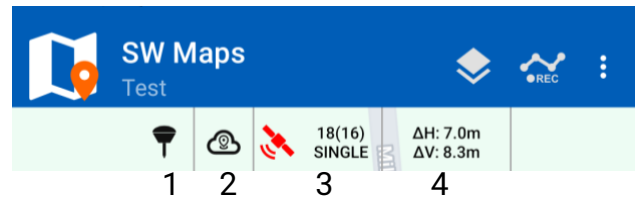

Figure 1
- Press  *GNSS Connection* (see Fig. 1).